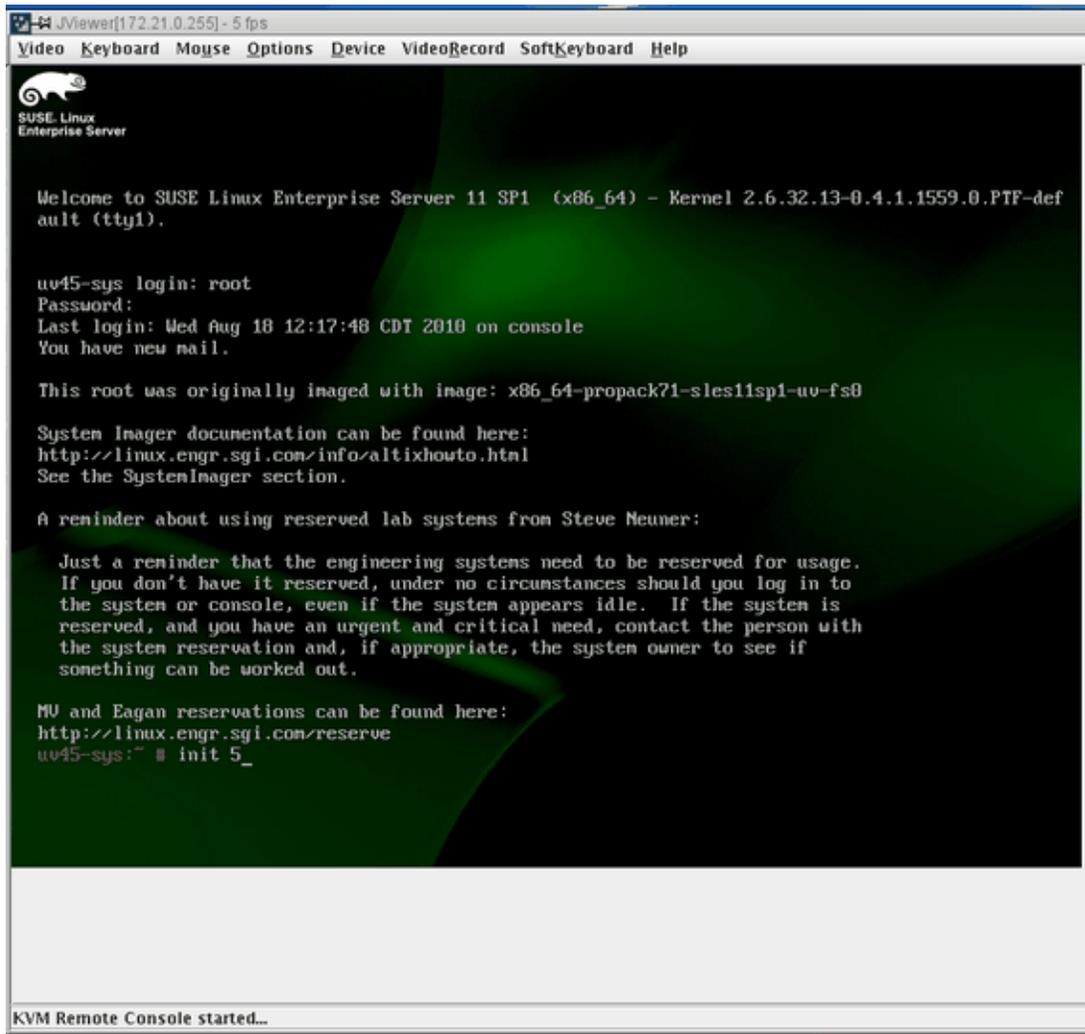

Figure 3-10 JViewer Operating System Login Screen
13. The operating system login screen appears. At the prompt enter **init5**, as shown in Figure 3-10 on page 43.